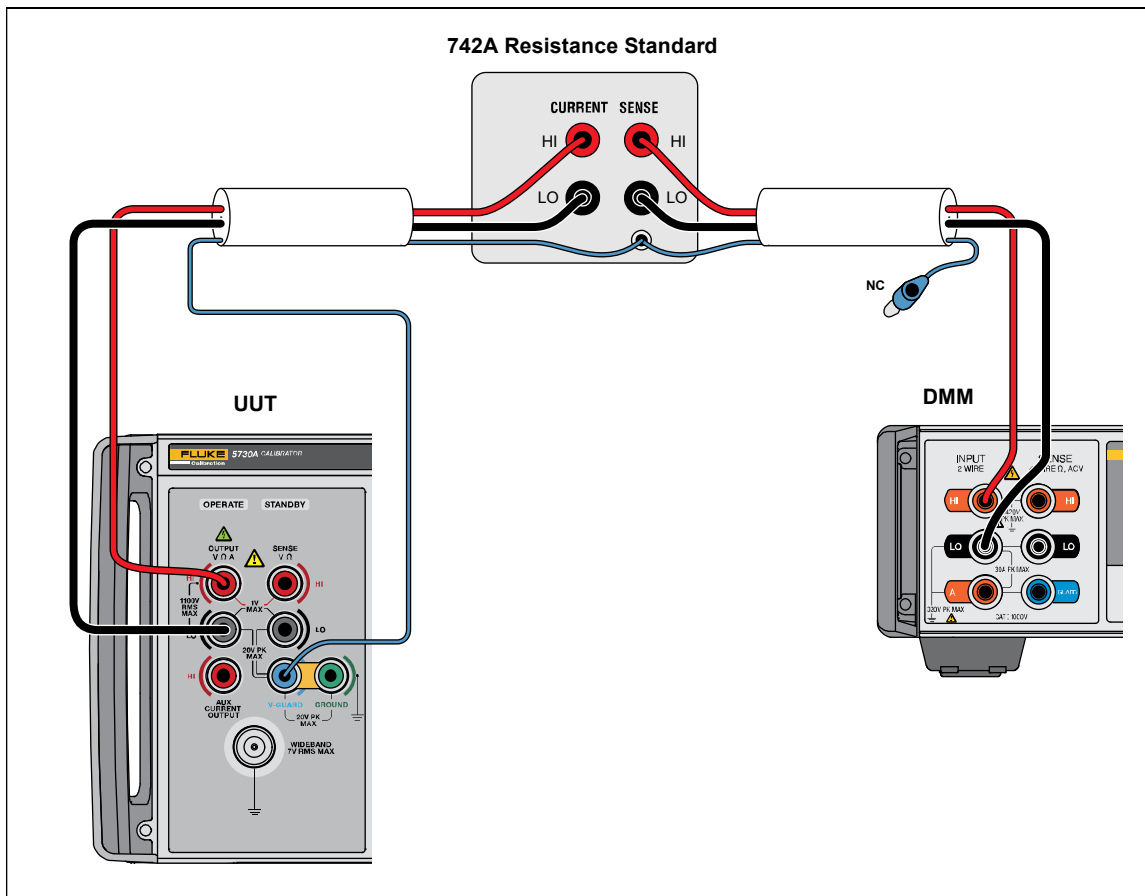

Figure 16. Direct Current Accuracy Test Connections
1. Connect the DMM and the Product to the shunt given in Table 12, as shown in Figure 16. When testing a 5725A, connect to the 5725A current output terminals instead of the Product output.